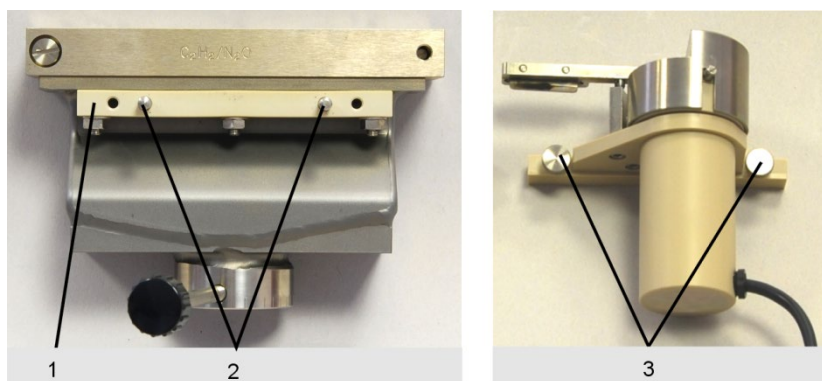

Fig. 45 Fastening rail mounted on burner/knurled screws on the scraper
2. Unscrew the fastening rail (1 in Fig. 45) with knurled screws (2 in Fig. 45) from the scraper.
4. Attach the scraper to the guide pins of the fastening rail (2 in Fig. 45) and tighten with knurled screws (3 in Fig. 45).